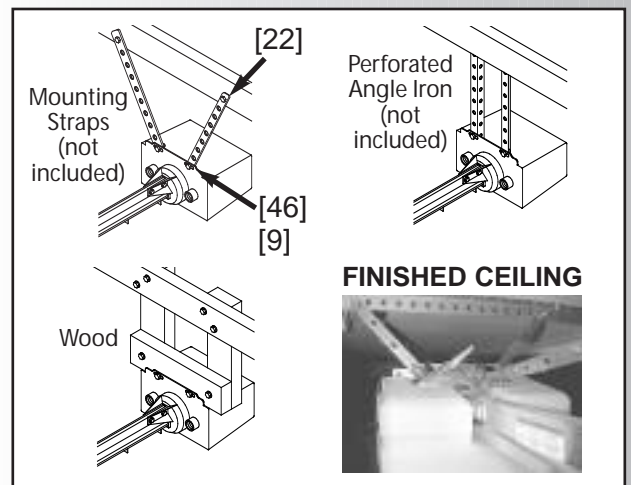

Fig. 2-11
- using one of the preferred methods shown, **Fig. 2-11**, mount power head. (It is possible to use other mounting methods. The critical point to remember is that the mounting assembly must be solidly attached and able to support the weight of the power head.) **DO NOT ATTACH TO DRY WALL OR SUSPENDED CEILING.** It must be anchored to the framework of the garage.